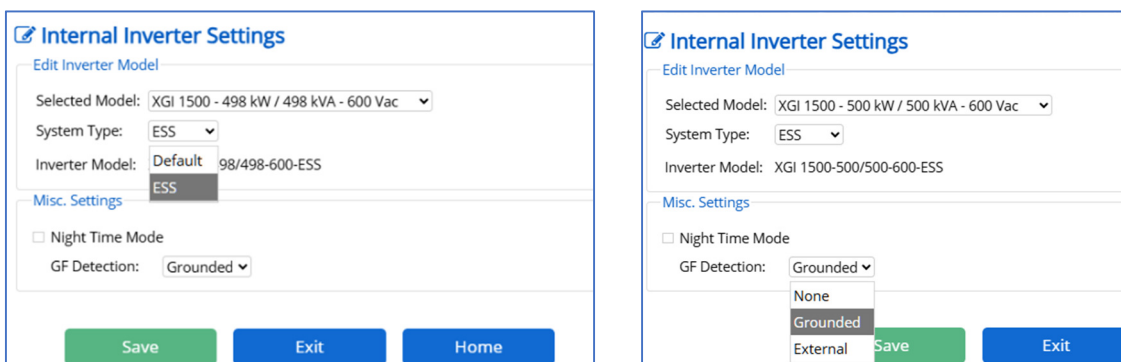

Fig. 5-2. GUI SCREEN SHOTS – CHANGING DC GROUNDED TO DC FLOATING
9. Change “System Type” to “ESS” from the drop-down menu (see Fig. 5-2., left)
10. Change “GF Detection” to “External” from the drop-down menu (see Fig. 5-2., right)